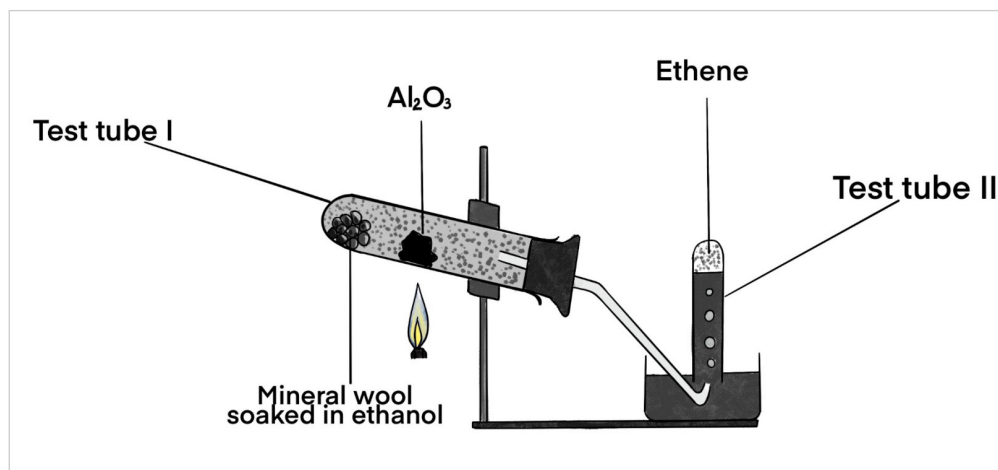

Figure 3.1: Preparation of ethene in laboratory
4. Arrange the apparatus as shown in figure 3.1